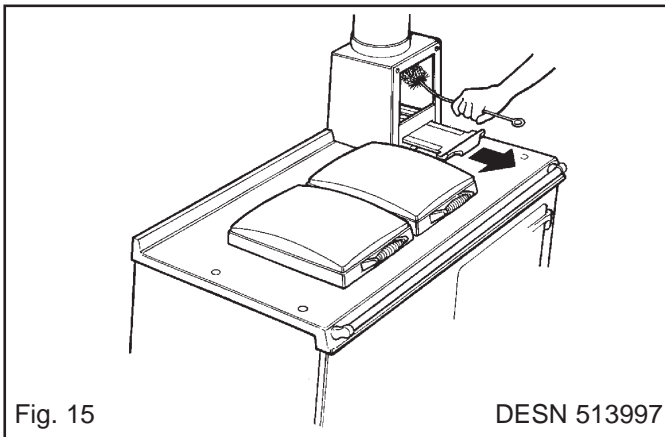

Fig. 15
**Stove Flueway** - Allow the fire to burn out, open the flue chamber damper to its maximum and remove the flue chamber door by lifting up on an angle. Brush the soot or fly ash from the flue pipe allowing it to fall onto the top of the oven. (See Fig. 15).